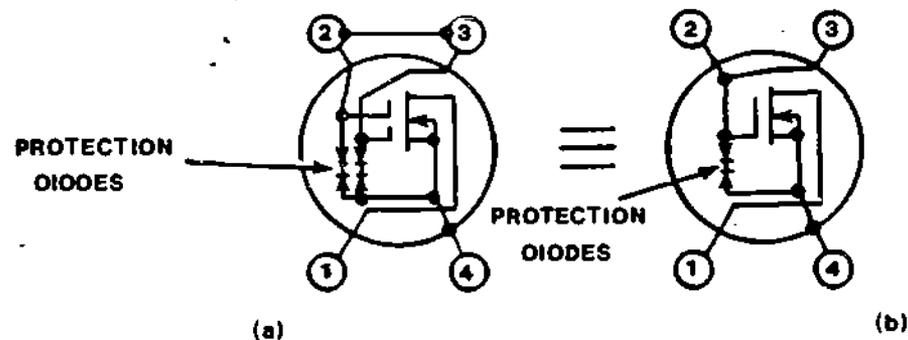

Figure 22
- (22) Some MOSFETs have built-in gate protection circuits to avoid damage due to excessive voltages. Figure 22 shows an example of internal diode protection circuits placed in the circuit schematics of dual and single-gate MOSFETs.
In Figure 22, the internal protection circuits are made of back-to-back